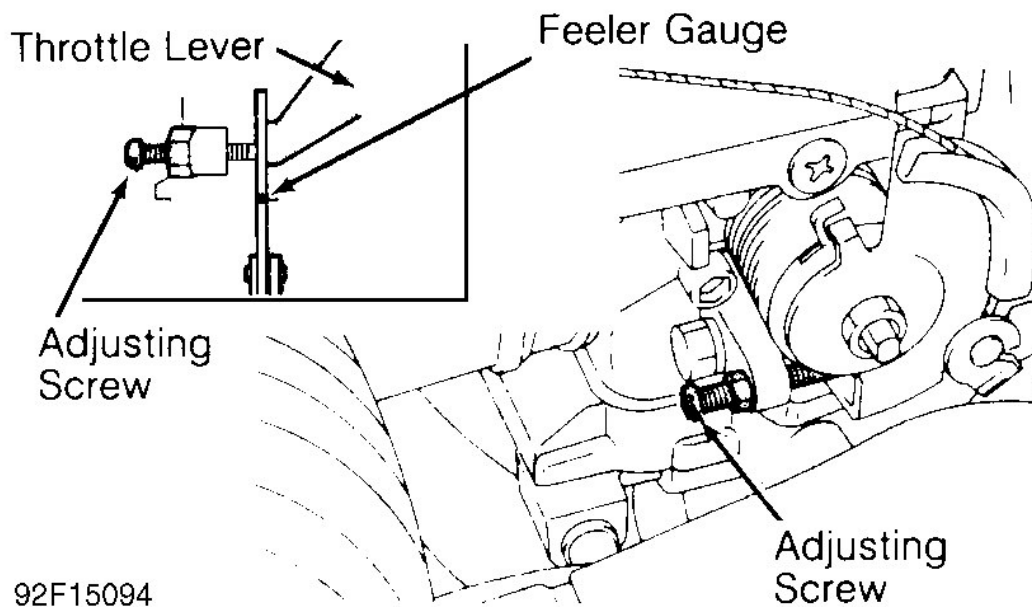

Fig. 14: Installing Feeler Gauge for Checking TPS
2. Install a .025" (.64 mm) feeler gauge between adjusting screw and throttle lever. See **Fig. 14**. Loosen TPS retaining screws. Rotate TPS fully clockwise (toward bottom of throttle body).
2. Install a .025" (.64 mm) feeler gauge between adjusting screw and throttle lever. See **Fig. 14**. Loosen TPS retaining screws. Rotate TPS fully counterclockwise (toward bottom of throttle body).